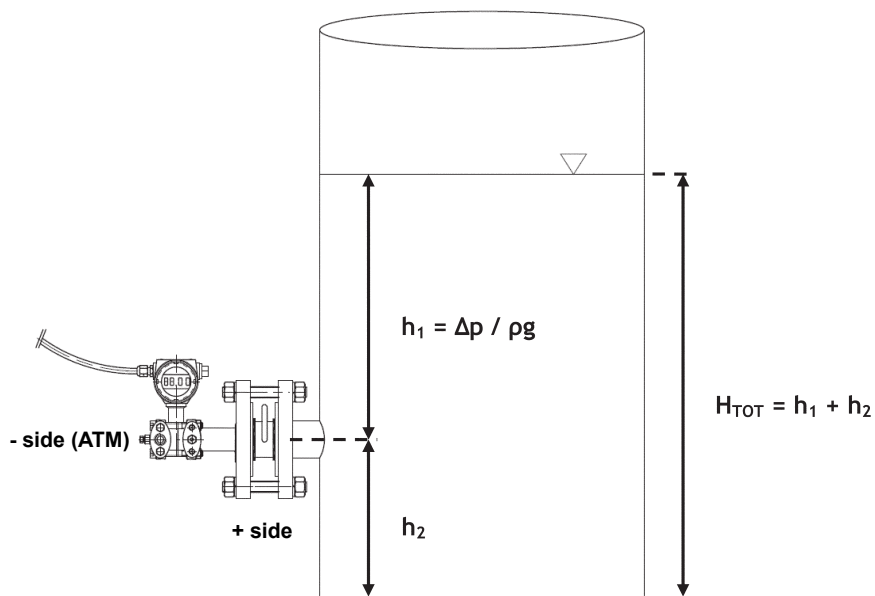
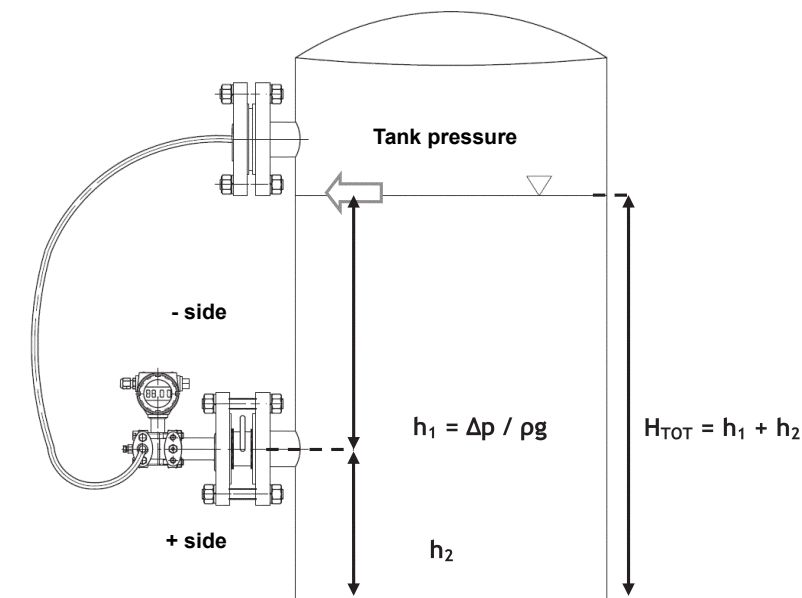

Fig. 3 - Level measurement in open vessels
Fig. 4 - Level measurements in closed vessels
The transmitters LD357B may be used for relative pressure measurements or level measurements in tanks or piping. In **Fig. 3** the simplest mounting, direct on piping, is illustrated.
Fig. 3 and Fig. 4 show some of the installations recommended by ISO 2186 Standards. Refer to this Standard for more information.
- Referring to **Fig. 4**: the descending pipes can be filled with condensate vapors of the process fluid or with suitable inert liquid to prevent direct contact with the transmitter diaphragm.